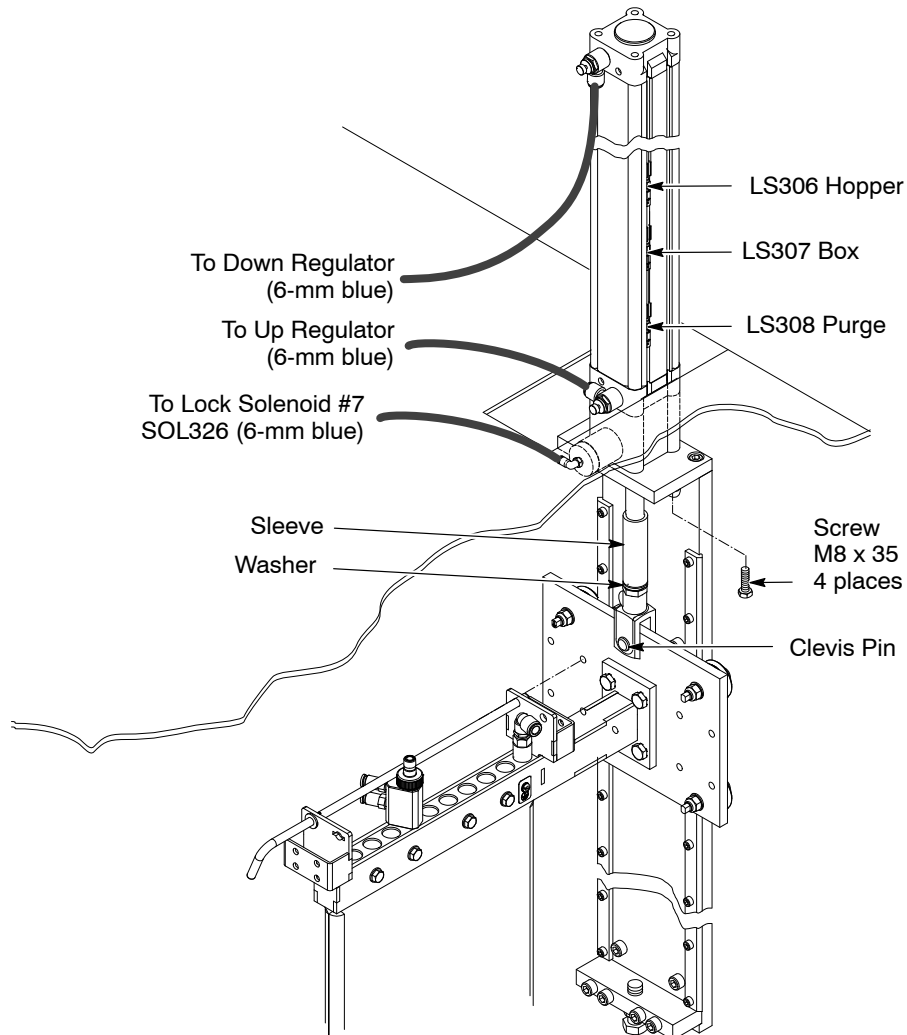

Figure 8-8 Lift Cylinder Installation
1. See Figure 8-8. If not using Nordson 50-lb cylindrical hoppers: Install the sleeve and washer on the new cylinder.